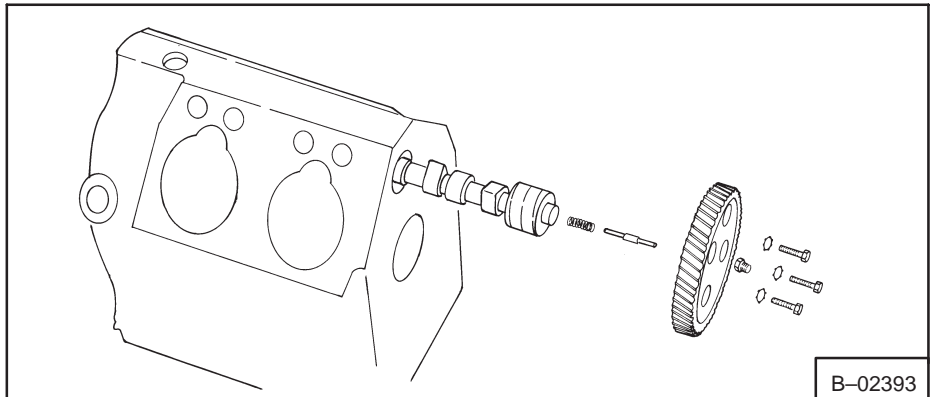

Fig. 7A-34 Install Gear and Camshaft
2. Install the gear cover bolts and two dowel pins. Tighten the bolts to 14-18 ft.-lbs. (19-24 Nm) torque (Fig. 7A-36).